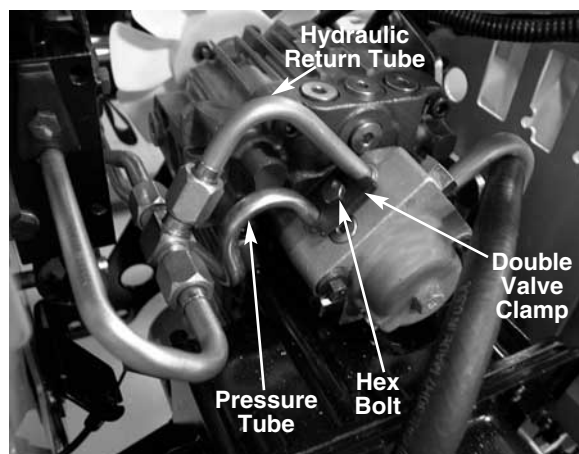

FIGURE 1.
1. Remove the hex cap screw securing the double valve clamp to the charge pump using an 11mm swivel socket. See figure 1.
7. Reinstall the double valve clamp to the charge pump. See figure 1.